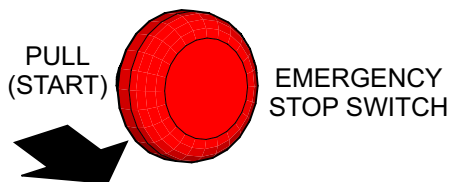

Figure 11. Kill Switch (OFF)
1. Before attempting to start the power buggy, make sure that the **emergency stop switch** (Figure 11) is not pushed in. The power buggy will not start with the emergency stop switch engaged. Pull the switch outward when starting the engine.